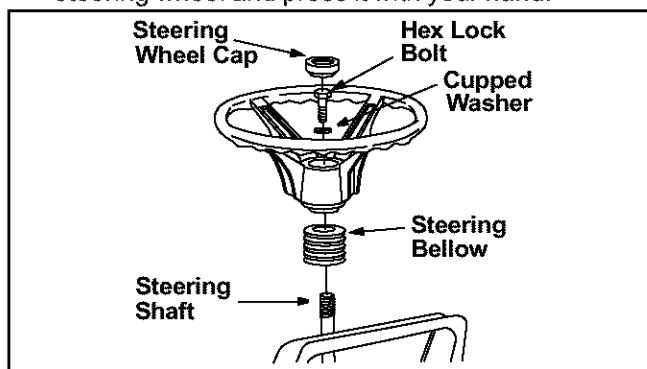

Figure 2
- Place the steering bellow over the steering shaft extending through the dash. See Figure 2.
- Place the washer with the cupped side down over the steering shaft. Secure with hex lock bolt. See Figure 2.